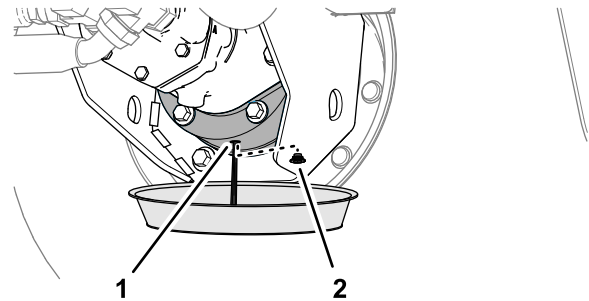

Figure 90
6. Place a drain pan under the brake housing, remove the drain plug, and allow the lubricant to drain completely (Figure 90).